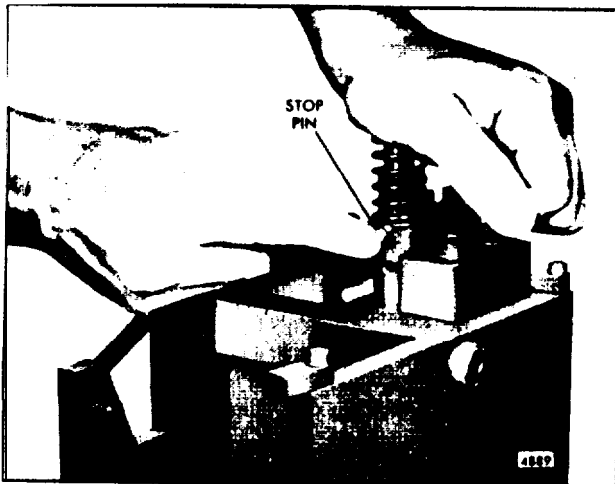

Fig. 41 - Installing Injector Follower Stop Pin
3. Refer to Fig. 41 and place the stop pin on the injector body so that the follower spring rests on the narrow flange of the stop pin. Then align the slot in the follower with the stop pin hole in the injector body. Next align the flat side of the plunger with the slot in the follower. Then insert the free end of the plunger in the injector body. Press down on the follower and at the same time press the stop pin into position. When in place, the spring will hold the stop pin in position.